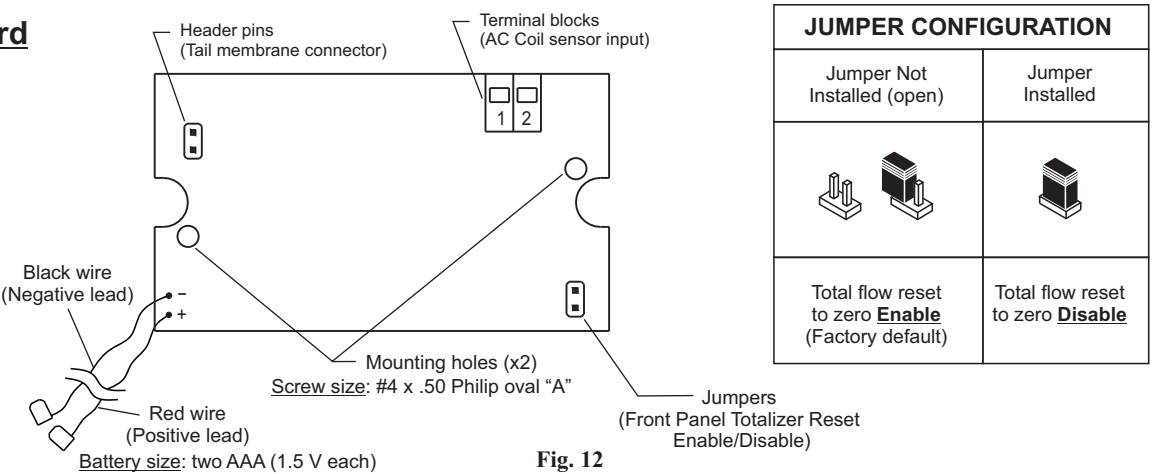

Fig. 12
- Model F-1000-TB:The F-1000-TB is the basic totalizer meter. The meter will display the total flow amounts from .01 through 999999 in any engineering units. Some standard units of measure are GALLONS, LITERS, CUBIC METERS. Pressing and holding the RESET button (located on the front panel) for at least 2.0 seconds resets the total to zero. This feature can be disabled -- see Fig. 12 below.
- Model F-1000-RT:The F-1000-RT is the rate and totalizer meter. The meter will display the flow rate amounts and the total flow amounts from .01 through 999999 in any engineering units. Some standard units of measure are GALLONS PER MINUTE, GALLONS PER HOUR, GALLONS PER DAY, LITERS PER MINUTE, LITERS PER HOUR, LITERS PER DAY, CUBIC METERS PER HOUR, CUBIC METERS PER DAY. Pressing the RESET button (located on the front panel) toggles the display between flow rate and total flow. Pressing and holding the RESET button for at least 2.0 seconds while the total flow value is displayed will reset the total to zero. This feature can be disabled -- see Fig. 12 below.